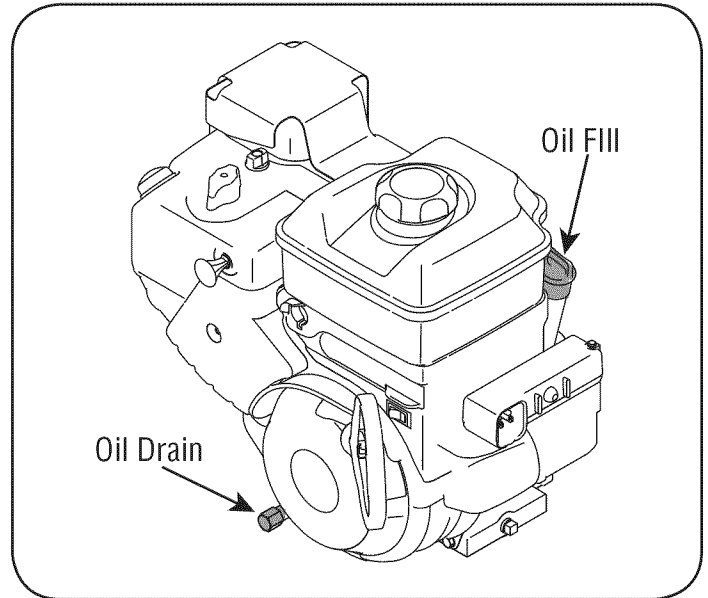

Figure 13
- With engine OFF but still warm, remove oil drain plug and drain oil into an appropriate receptacle. See Figure 13.